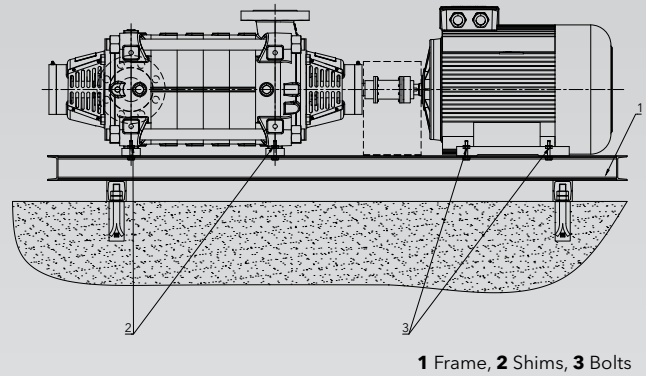

Figure 2
5. If needed, use shims to adjust the height. If shims are used, always place them immediately to the left and right of the foundation bolts between the frame and foundation. For distances between bolts (U) greater than 800 mm, insert additional shims in the center of the distance between the bolt holes.
6. Ensure that all shims are perfectly aligned. Figure 2
- A suitable shim is placed between the pump and frame to allow the same height to be adjusted between bottom and center lines in case of replacement. Figure 2